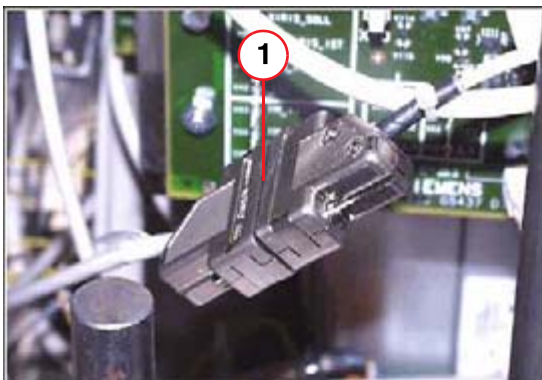

Fig. 4: SUB-D plug connection
- Connect and screw together the two SUB-D plugs (1/Fig. 4 / p. 6).